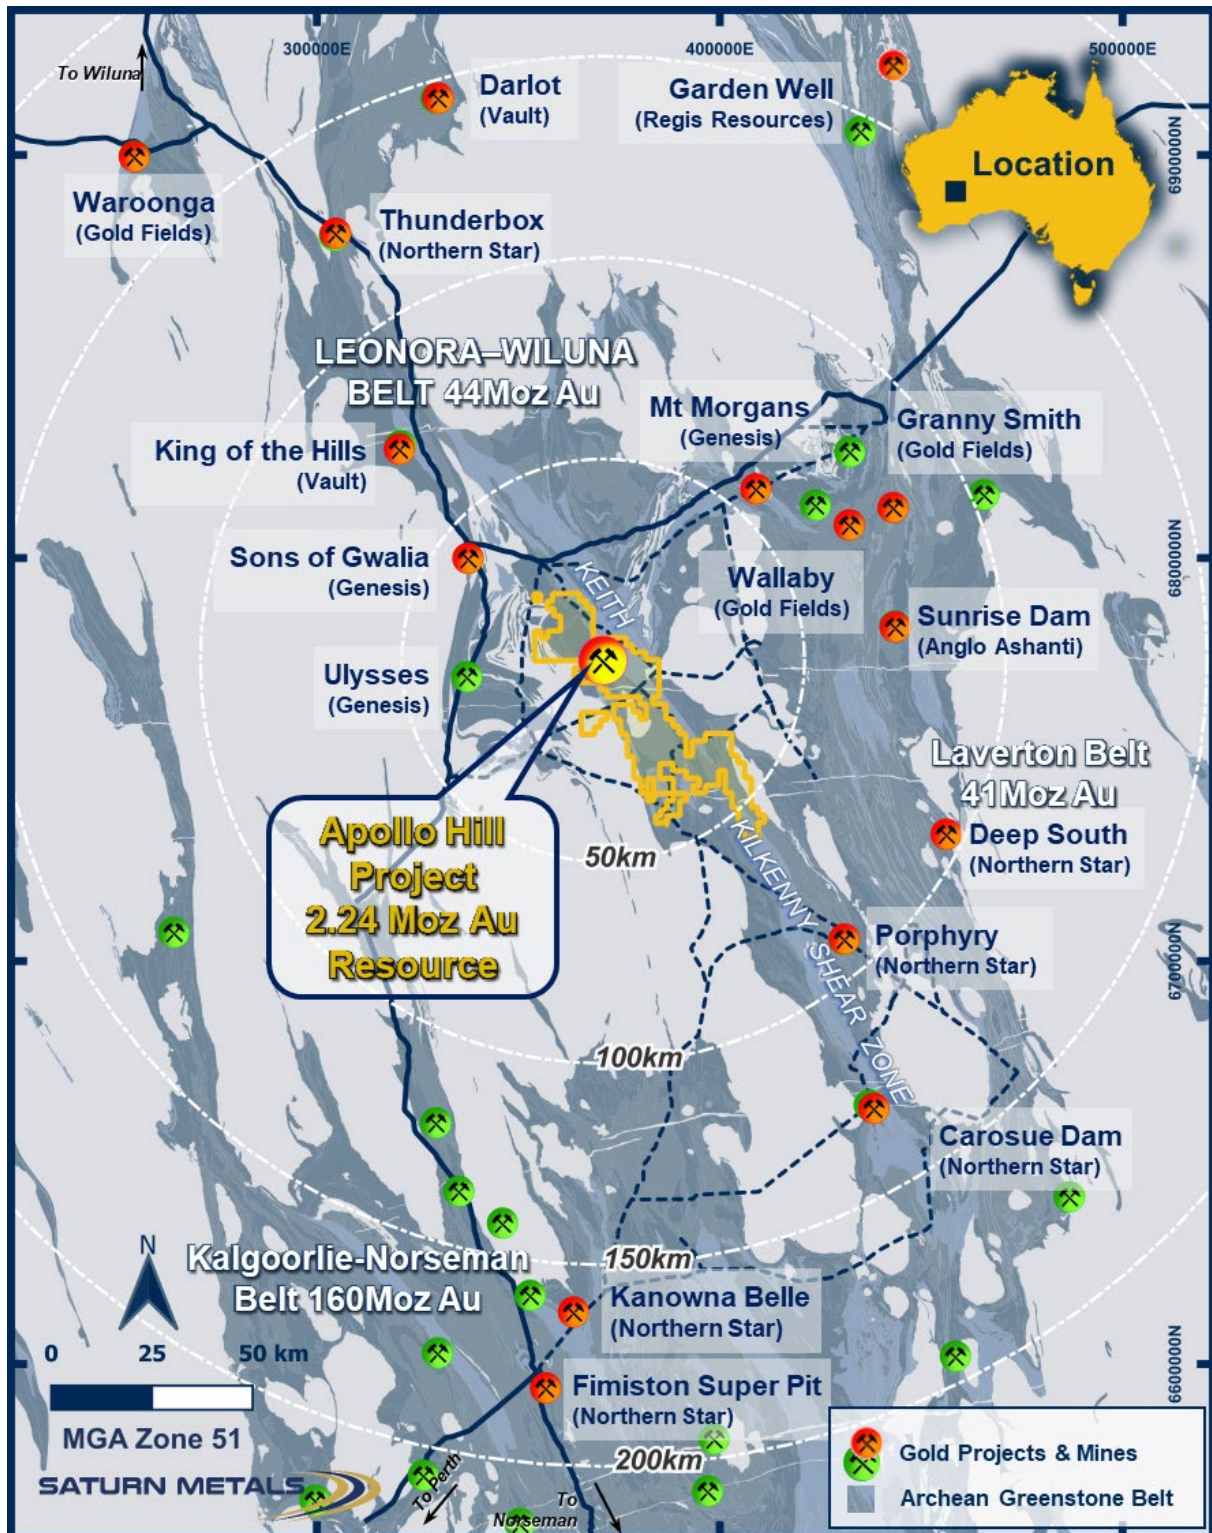

Figure 2 – Apollo Hill location, Saturn Metals' tenements and surrounding gold deposits, gold endowment and infrastructure.
This program represents the next step in Saturn's strategy to upgrade the 2.24Moz Apollo Hill Mineral Resource¹ ahead of the DFS. While the initial phase of drilling is prioritising shallower mineralisation along the Iris, Ra and Tefnut trend by following up previously reported intersections such as 18m @ 2.14g/t Au in AHRC1226 (Figure 2), drilling will also follow up on promising exploration intersections to the north of Apollo Hill, including:
- 9m @ 1.48g/t Au from 21m (AHRC0821) (Figure 2).
In-fill drilling is also underway in the main deposit area to support Mineral Resource category upgrades and Ore Reserve expansion (Figure 2).
Figure 2 – Plan view showing the planned and in-progress drill program (black squares), a selection of historical follow-up targets intercepts (yellow call-outs), and historical drill holes with >1 gram-meter intercepts (coloured circles).
Apollo Hill (29.15°S and 121.68°E) is located approximately 60km south-east of Leonora in the heart of WA's goldfields region (Figure 2). The deposit and the Apollo Hill project are 100% owned by Saturn and are surrounded by good infrastructure and several significant gold deposits. The Apollo Hill Project has the potential to become a large tonnage, simple metallurgy, low strip open pit mining operation.